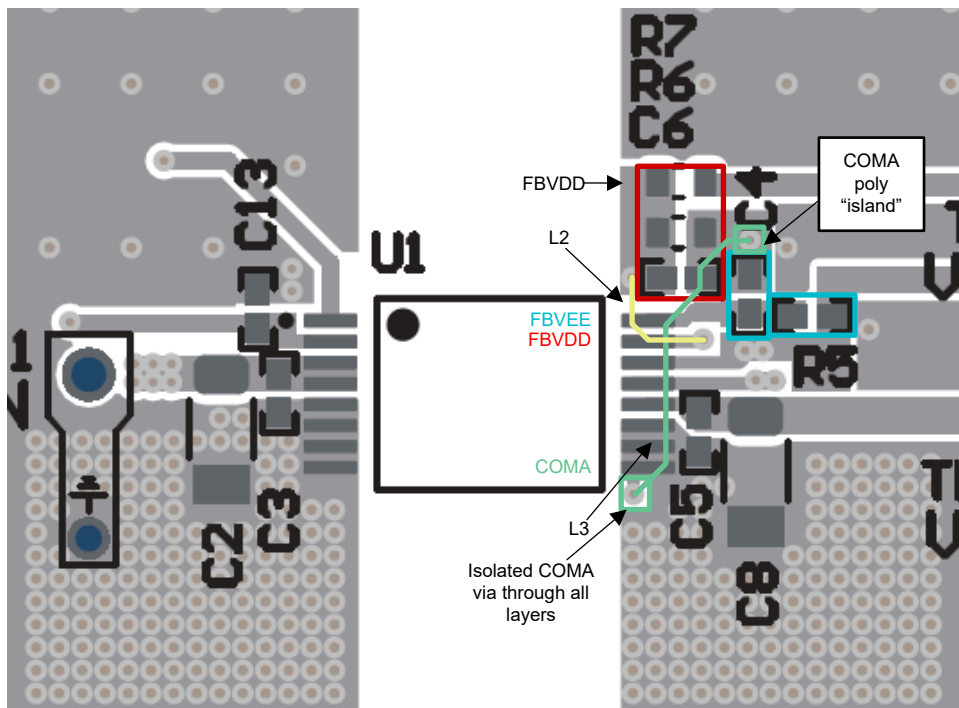

Figure 8-6. FBVDD (R6-7, C6), FBVEE (R5, C4), COMA Routing
- f. A layout example is shown in Figure 8-6, where L2 (yellow) is routed on layer 2 and L3 (green) is routed on layer 3.